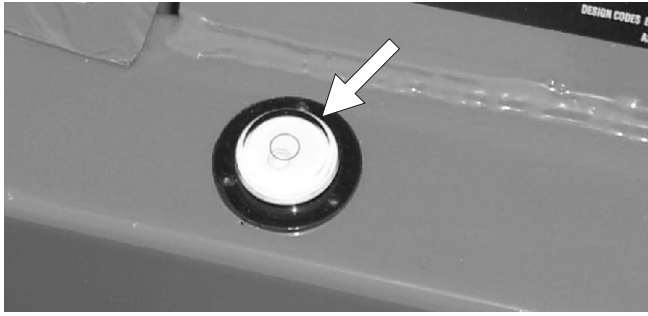
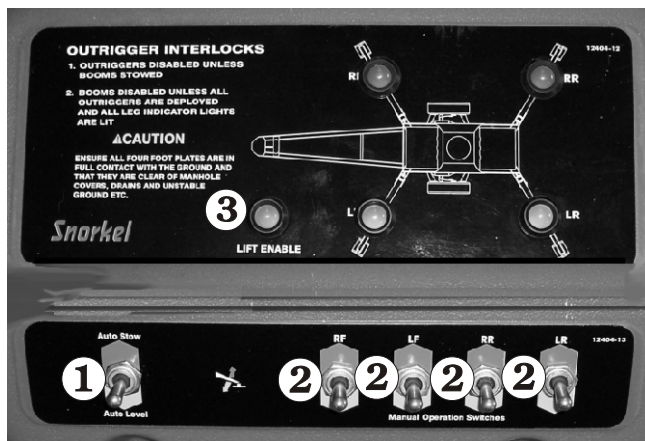

Figure 10.6
Figure 10.7 - Auto Level Controls
Lower the rear stabilisers and level the machine using the level bubble (see Figure 10.6) adjacent to the control levers.
1. Operate each switch ② (see Figure 10.7) to raise or lower each stabiliser one at a time. Use the level bubble (see Figure 10.6) to check the machine is level.